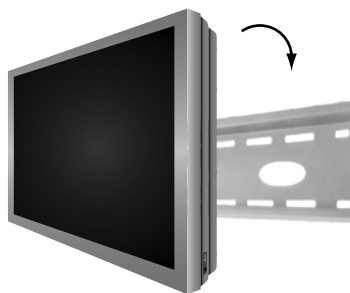

Figure 5 - Carefully hook arms and TV over wall plate.
1. With help of another person, carefully lift TV and hook arms over wall plate. See Figure 5.